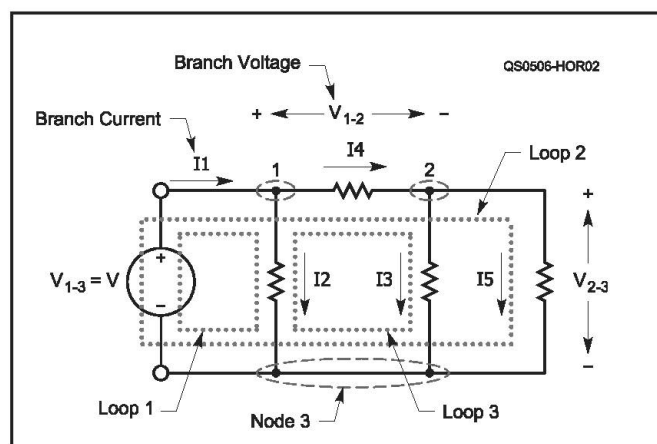

Figure 2—This circuit illustrates nodes, branches and loops—the keys to analyzing circuits.
**Figure 2 — A simple amateur transmitter amplifies the signal from an oscillator and then feeds that signal to an antenna. It uses several amplifier stages. The input power to one of those stages is 5 milliwatts and the output from that stage is 40 milliwatts. The text describes how to calculate the gain of that amplifier stage.**
Suppose the power in part of a circuit such as the one shown in **Figure 2** measures 5 milliwatts and in another part of the circuit it measures 40 mW. Using the 5-mW value as the reference power, how many decibels greater is the 40-mW power?
An example will help. Figure 2 shows a simple circuit with an arbitrary current assigned in each of the five branches. I1 through I5 are called *branch currents*. The three nodes are labeled 1, 2, and 3. We don't know which way the actual branch currents flow because we don't know whether V is positive or negative. The assigned direction doesn't matter! If we draw the arrow in the wrong direction, the calculated value for the branch current turns out to be negative.
energy. The opposite of KCL, KVL is applied to loops and states that *the sum of branch voltages around a loop is equal to zero*. A *branch voltage* is the voltage from one end of the branch to the other, such as V1-2 between nodes 1 and 2 in Figure 2. For example, if we follow loop 1 from the power supply's positive terminal at node 1, through the branch for I2, and back to the supply's negative terminal at node 3, the voltages must all sum to zero. It would be the same if, instead, we followed loop 2 through I4, then I5, and back to the negative terminal.
Let's do another example. In Figure 2, "doing a KVL" around loops 1, 2, and 3, the equations are:
**Figure 2** — Ampère's force law describes the force between two parallel, current-carrying wires. If the currents are flowing in the same direction, the fields are oriented in opposite directions between the wires, partially cancelling each other. Since the fields reinforce elsewhere, the result is a force pushing the wires together.
with similar definitions to Coulomb's law and illustrated by Figure 2. Note the similarity of Ampère's force law and Coulomb's law above.